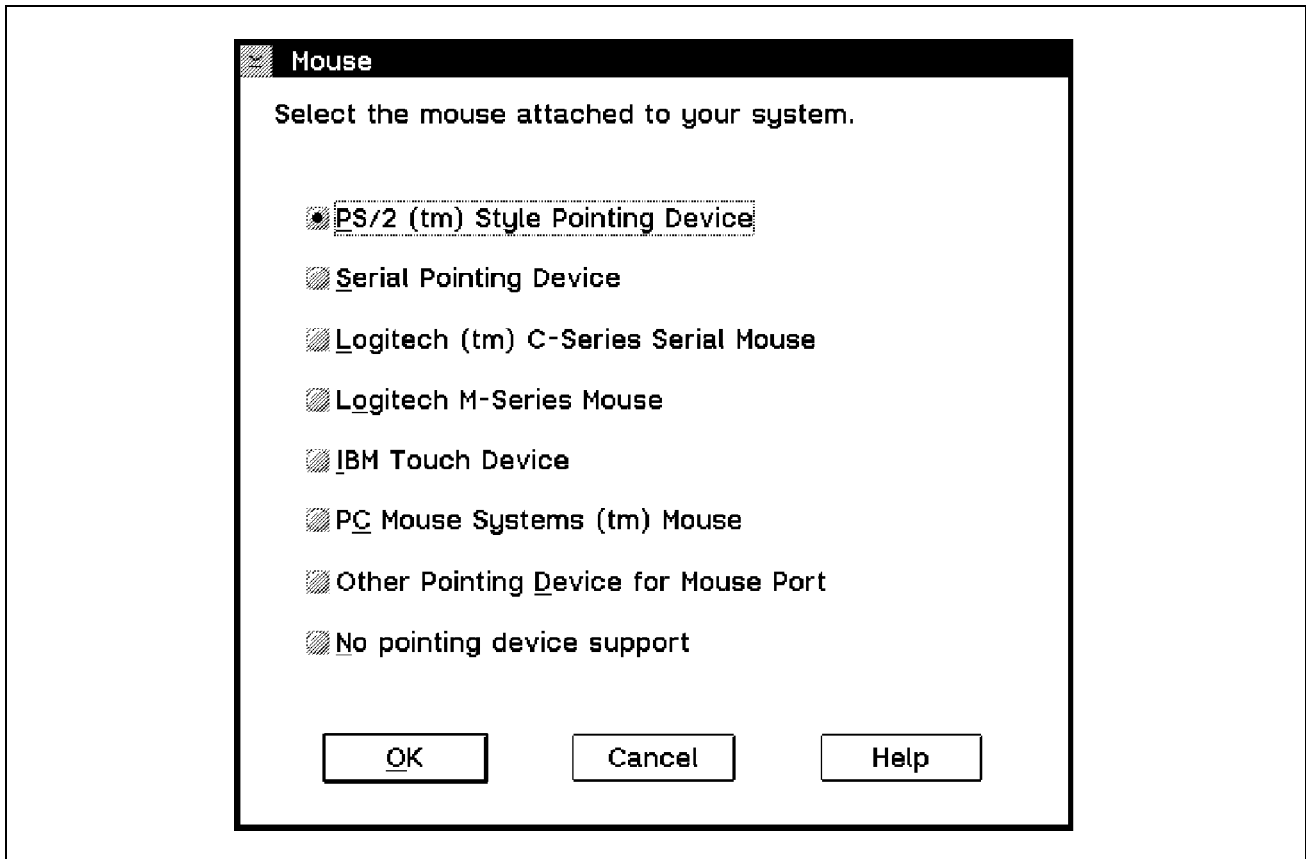

Figure 95. The Mouse Selection Menu
- Click on the **Mouse** button. The window showed in Figure 95 will be displayed.